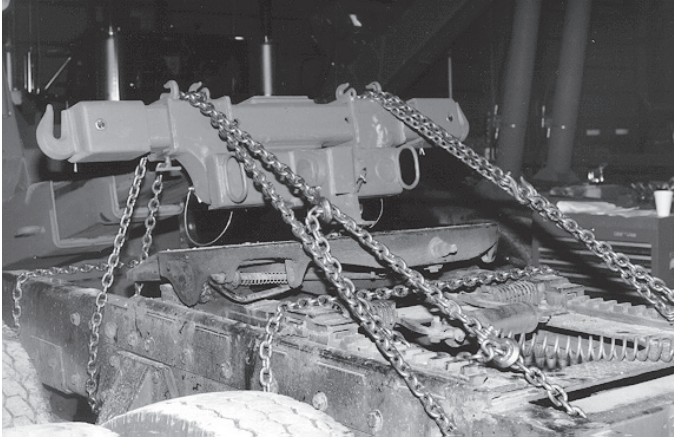

FIGURE 4A.17
- (f) On tractors with air bag suspensions, you must secure each axle with minimum 5/16" GR70 tow chain to prevent damage to air bags. Route chain around axle on one side, across frame rails and around axle on other side. Refer to Figure 4A.17.